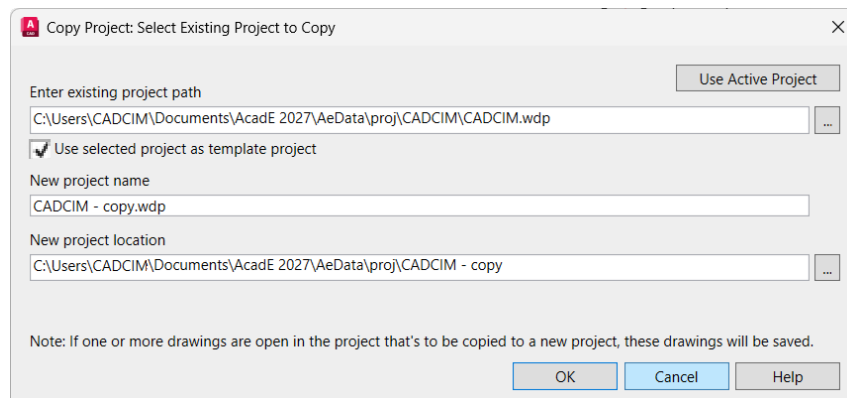

Figure 2-71 The Copy Project Select Existing Project to Copy dialog box
1. Choose the **Copy** tool from the **Project Tools** panel of the **Project** tab; the **Copy Project: Select Existing Project to Copy** dialog box is displayed, as shown in Figure 2-71.